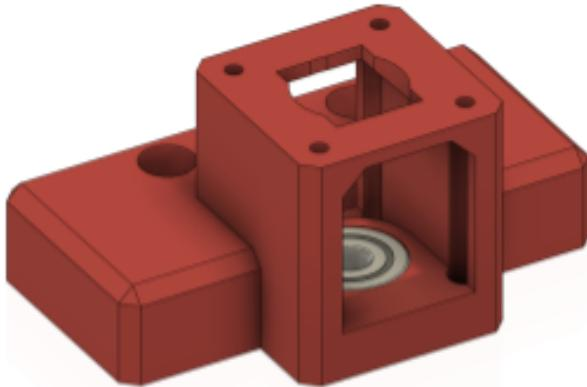

Figure 13.1
1. Insert the 608 bearing into the Z-Axis NEMA mount as shown in Figure 13.1.